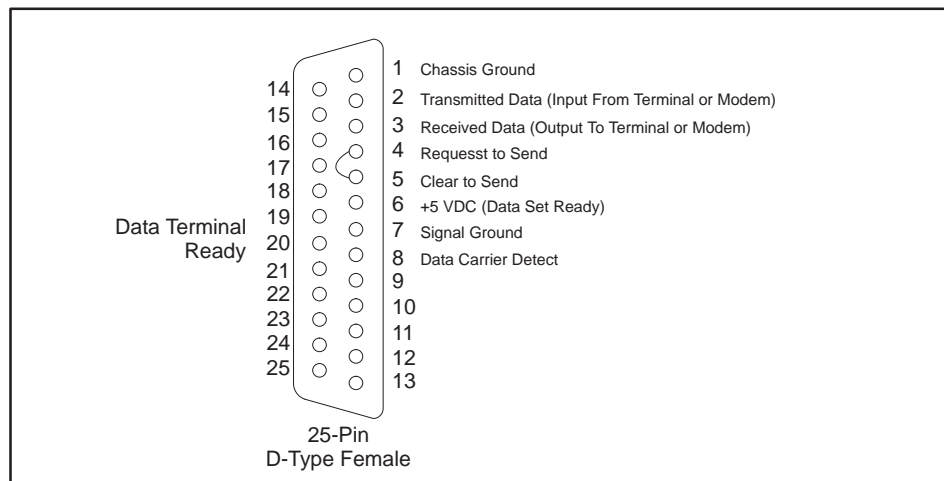
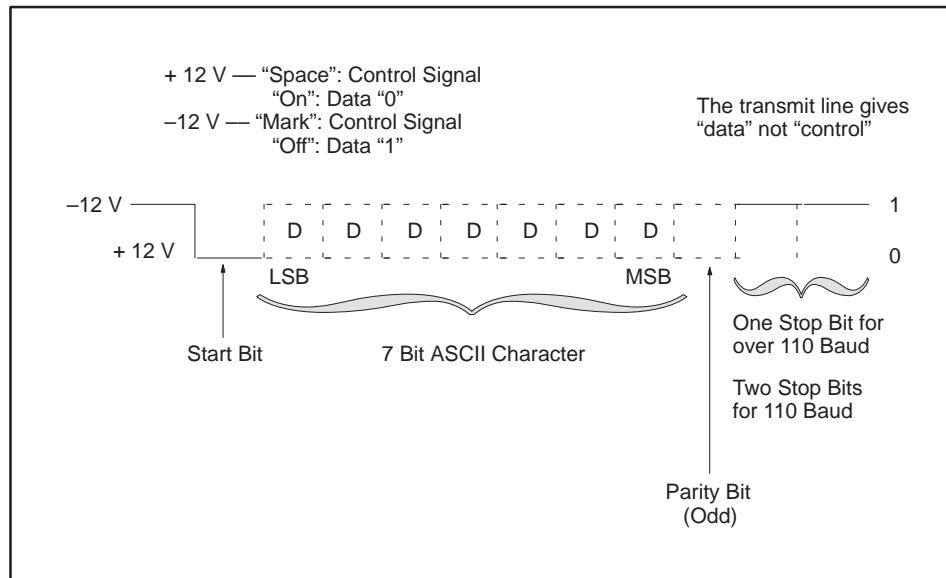

Figure 4-7 VPU Printer Port Connector
Figure 4-12 Character Format
The auxiliary port allows the VPU200 to be connected to one of several types of printers and hardcopy devices to obtain printouts of programs and of the contents of the display screen. Figure 4-7 illustrates the printer port connector, with signals and pin numbers. Voltage levels are compatible with E.I.A. Standard RS-232-C.
**Other Printers.** The VPU200-3104 can be connected to any printer that will accept the character format shown in Figure 4-12 and is compatible with the printer port connector shown in Figure 4-7. Voltage levels at the printer port are compatible with E.I.A. standard RS-232-C. VPU200 requirements for printing are pin 3 (RX Data), pin 7 (Signal GND), and pin 20 (Data terminal ready). Data terminal ready is used for printer busy.